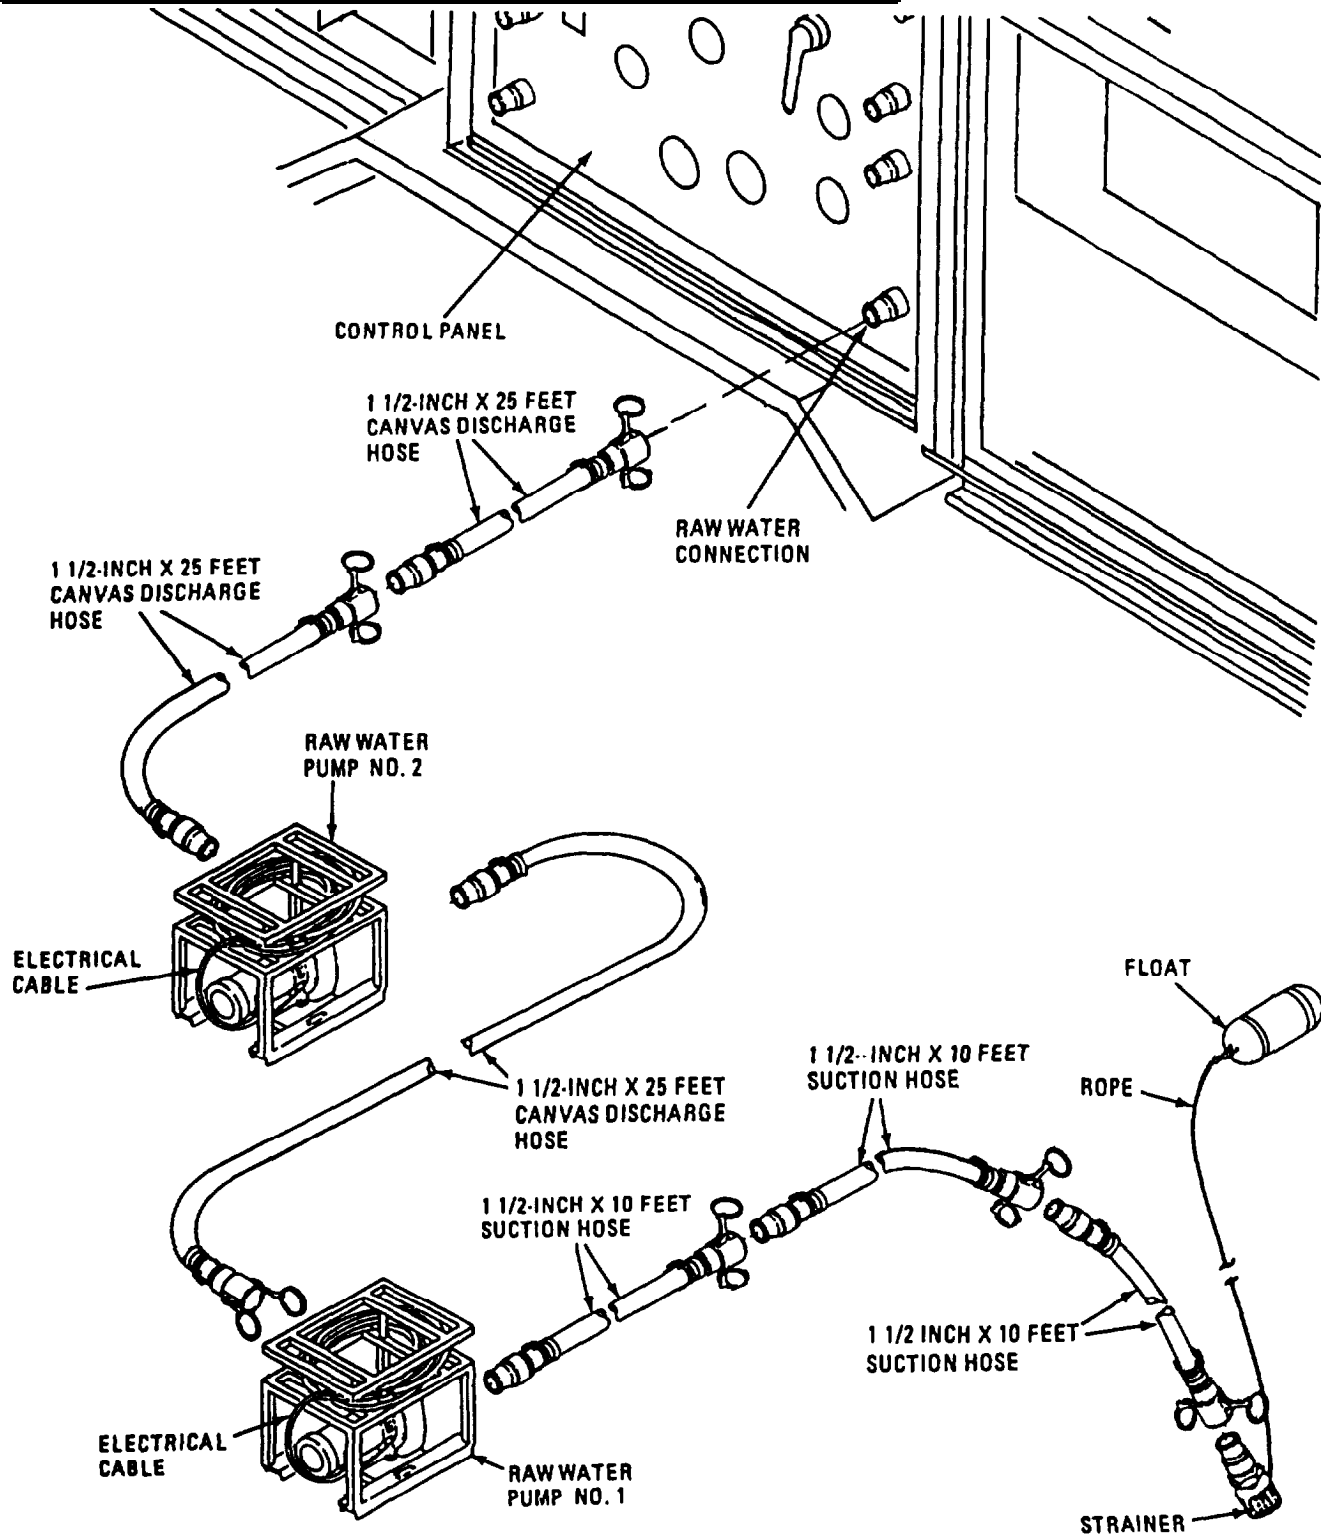

Figure 2-36. Raw Water System Setup.
- o. Setup Raw Water System. Refer to figure 2-36. Working from the ROWPU control panel to the water source, connect components of the raw water system as follows: